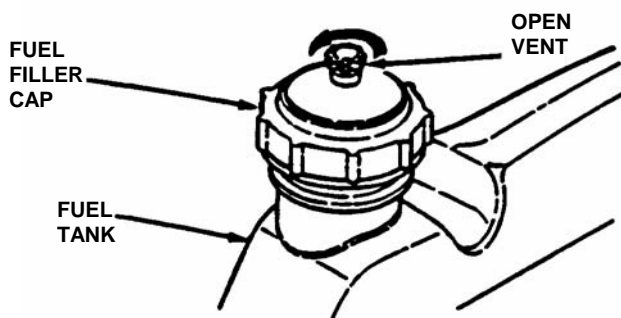

FIGURE 2.2
2.1.8. Add fuel to tank after pushing the Rear Engine Rider outside where fumes can dissipate. Make sure fuel filler cap is tight and vent is open after refueling. Refer to engine owner's manual for fuel specifications. See Figure 2.2.
4. Open vent on fuel filler cap by turning counterclockwise. **IMPORTANT:** Failure to open vent on the fuel filler cap can cause engine to stall. See Figure 2.2.